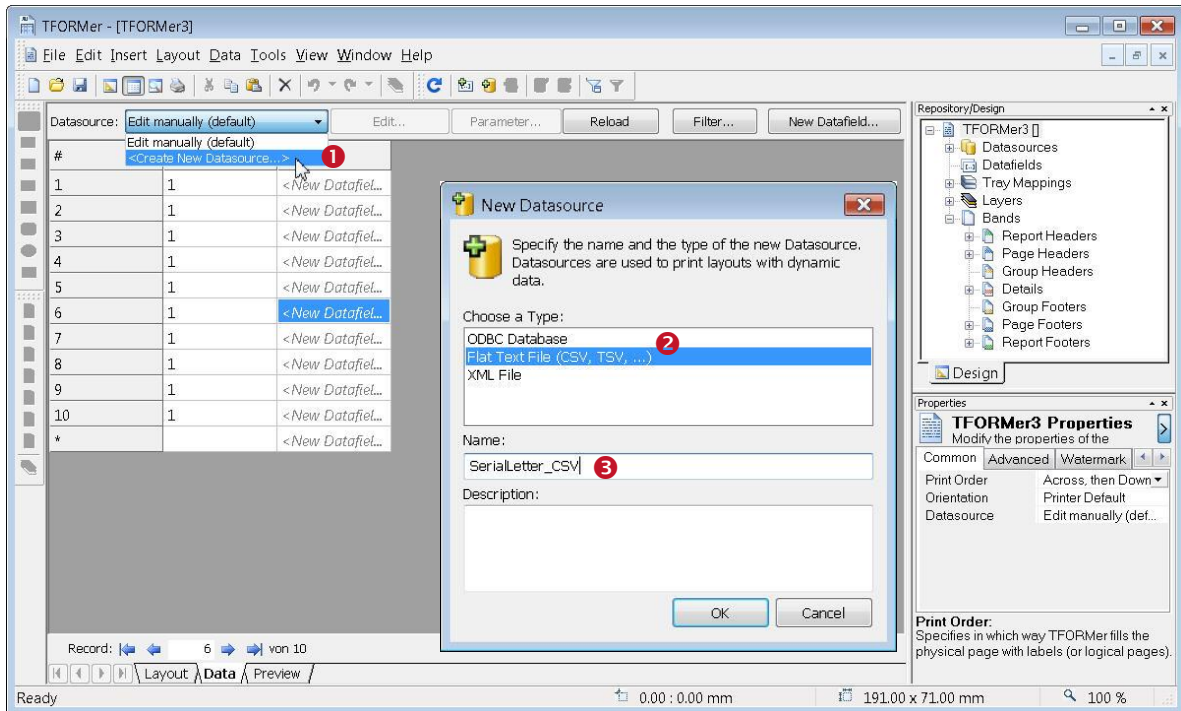

Figure 11: Create a new Datasource
To create a new datasource switch to the **Data** tab and select **<Create New Datasource...>** from the drop down menu (see ❶ in Figure 11 below). Alternatively you can right-click on the "Datasources" entry in the design tree and select **New Datasource...** from the pop-up menu or click on the "New Datasource" icon  in the data toolbar. The **New Datasource** dialog will appear: